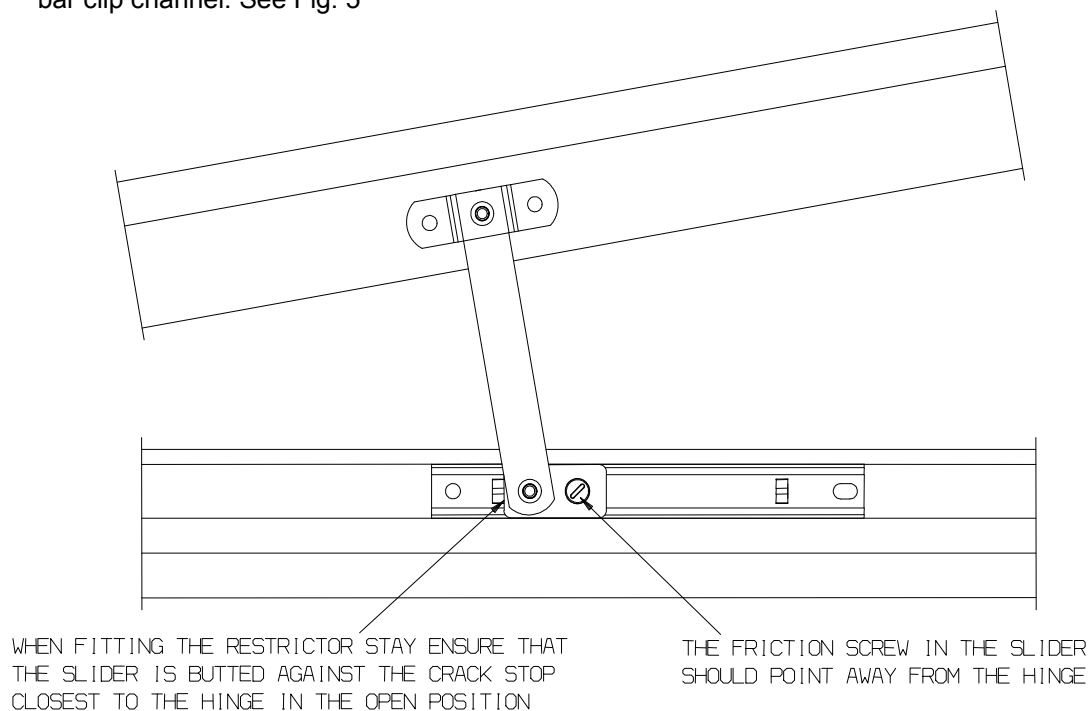

Fig. 5
- 2.1.17 Position the Restrictor Stay track with the stay in its open position against any sideways hinge location features or in the hinge location channel on the frame, commonly the glazing bar clip channel. See Fig. 5
2.1.28.1 Pan or mushroom head screws are the preferred option. See Fig. 5
2.1.28.2 Countersunk heads are acceptable but will not produce a neat appearance. See Fig. 5
2.1.28.3 Screws with countersunk/pan heads are also an acceptable head format. See Fig. 5